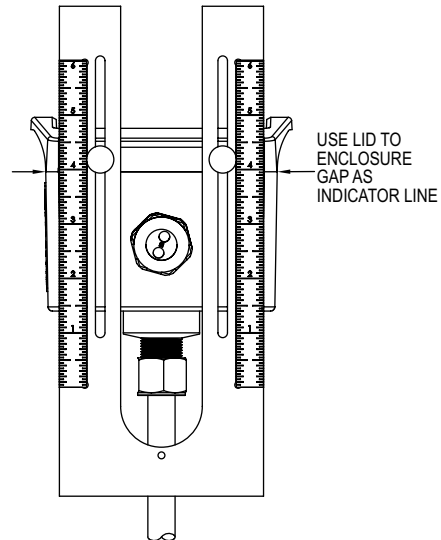

Figure 9: IEFB thermal energy meter alignment scale
A depth and flow alignment installation tool is provided to ensure proper depth insertion and flow alignment. To set the insertion depth, verify the alignment scale is set to the alignment scale value recorded previously as shown in figure 9 below. Loosen compression nut (4) to allow the shaft (3) freedom to travel up and down and rotate inside the process collet (5).